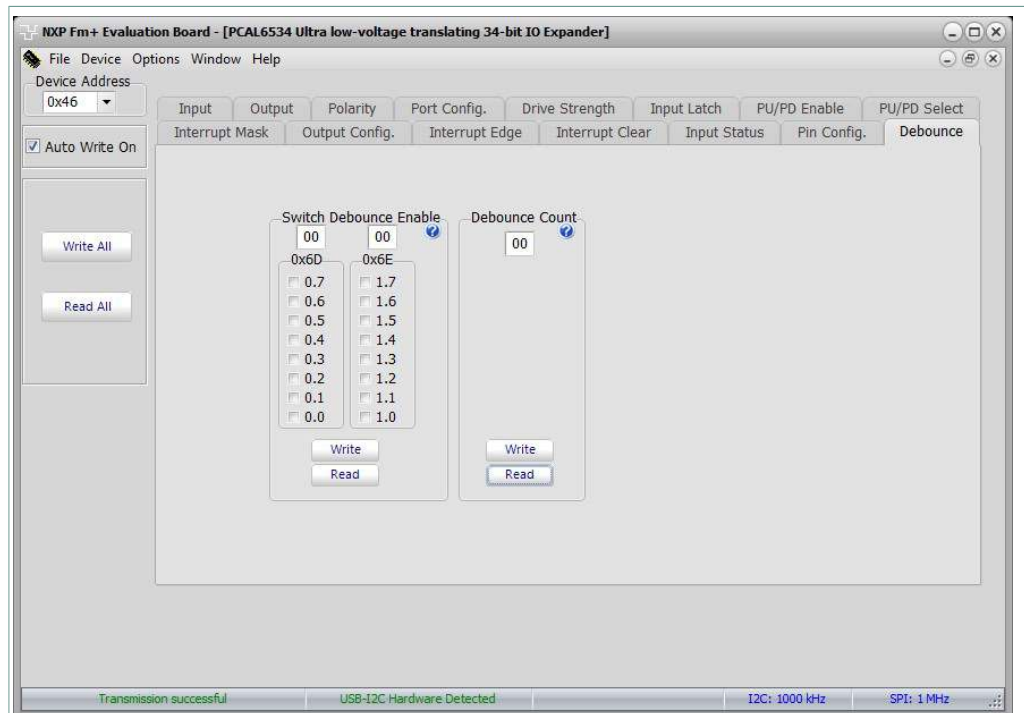

Figure 24. Device configuration screen for registers 6D-6F hex
16. Debounce registers read or write are shown in Figure 24.